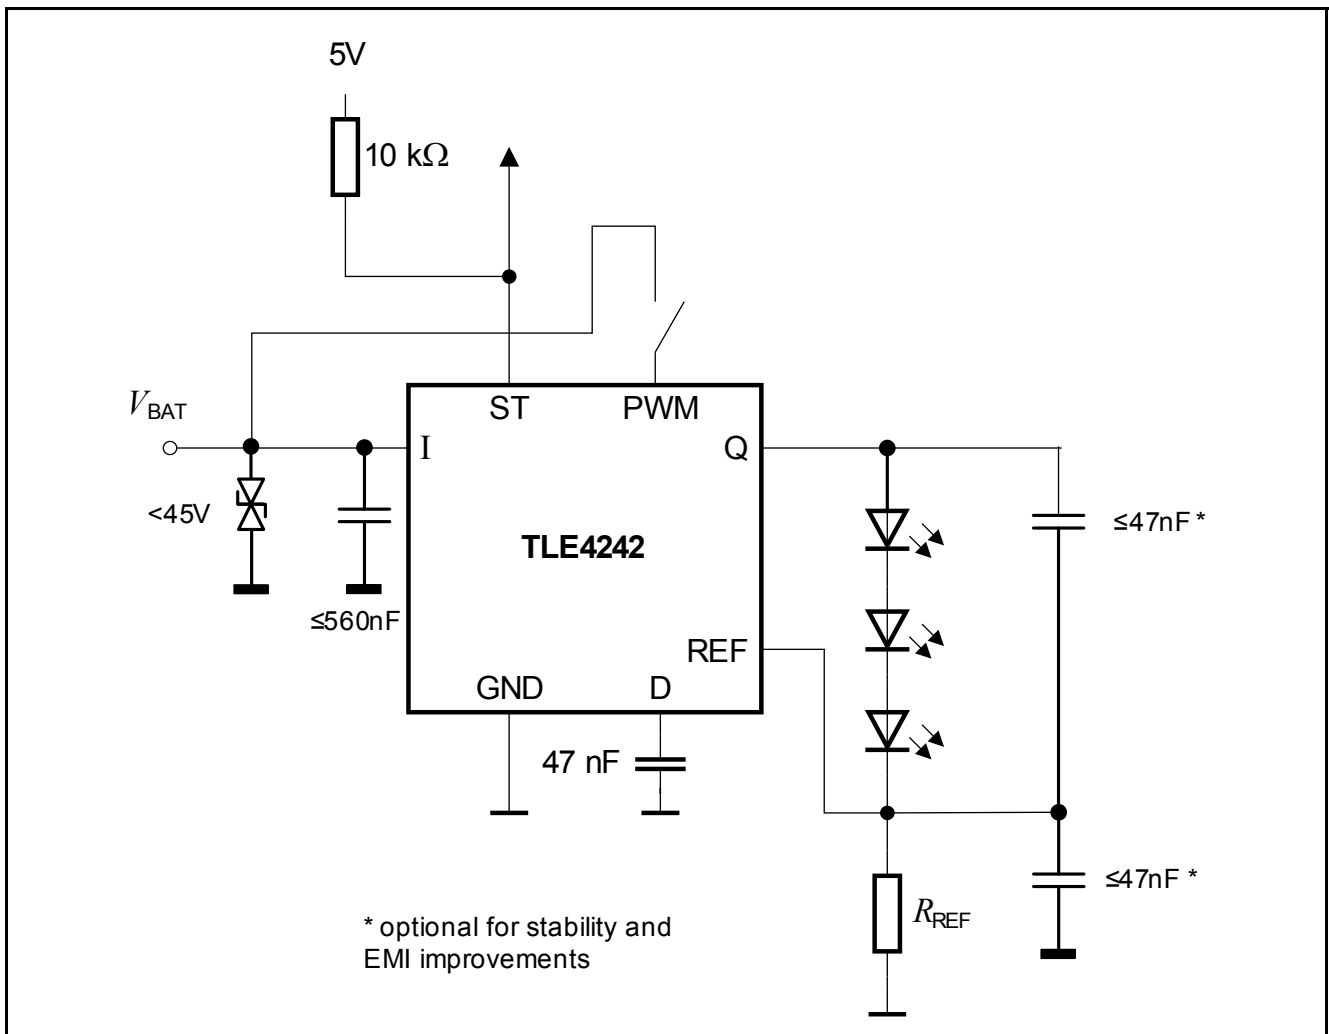

Figure 6-1 Application Diagram
The application example in **Figure 6-1** shows a typical application with the TLE4242EJ LED driver. The three LEDs are driven with an adequate supply current adjusted by the resistor R_{REF} . Thus brightness variations due to forward voltage spread of the LEDs are prevented. The luminosity spread arising from the LED production process can be compensated via software by an appropriate duty cycle applied to the PWM pin. Therefore, selection of the LEDs to forward voltage as well as to luminosity classes can be spared. The minimum supply voltage for the application is the sum of the LED forward voltages, the TLE4242EJ drop voltage **Minimum drop voltage $V_{dr} = V_I - V_Q$** and the max. voltage drop at the shunt resistor R_{REF} of $V_{REF(\text{max})}$ according to **Reference voltage**.
2) $V_Q - V_{REF}$ equals the forward voltage sum of the connected LEDs, see Figure 6-1